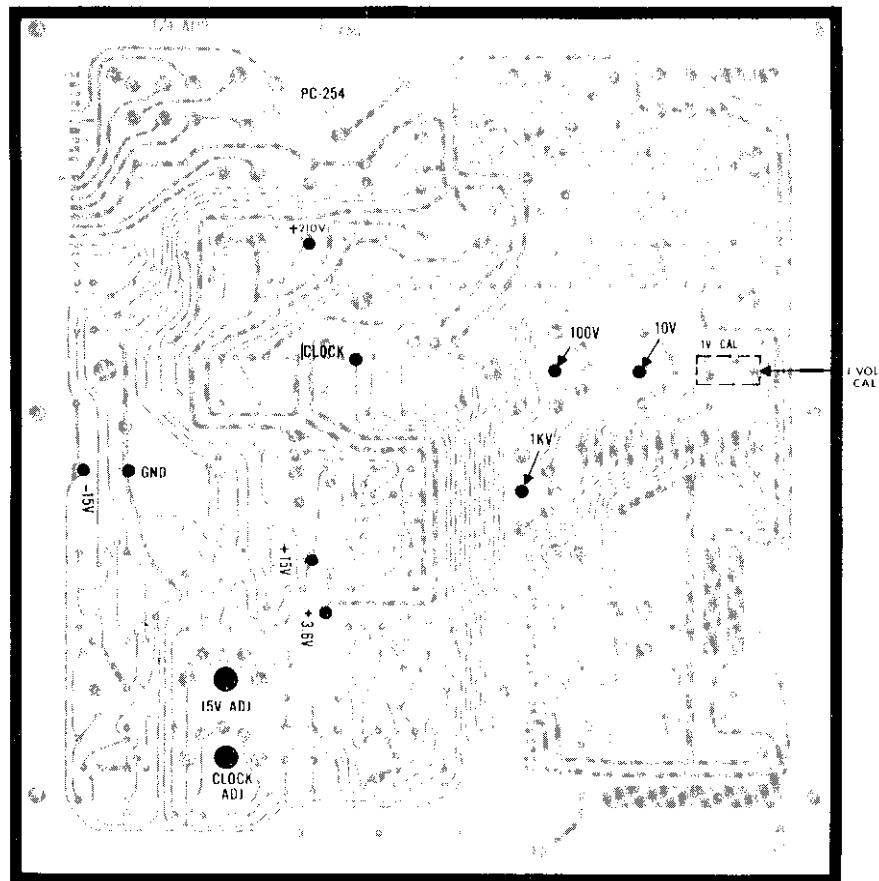

FIGURE 16. Calibration Controls.
2. Power Supply Checkout. All the power supply voltages can be measured at test points on printed circuit board PC-254 as shown in Figure 16.
1. Power Supply. The +15V supply should be adjusted for +15.00V dc  $\pm 0.050$ V using potentiometer R209 on PC-254 as shown in Figure 16. The -15V and +3.6V supplies cannot be adjusted since the +15V supply is used as a reference voltage.
2. Clock Frequency. Measure the clock frequency at the "CLOCK" test point on PC-254 as shown in Figure 16. The frequency should be adjusted for a nominal 10 kHz,  $\pm 20$  Hz using potentiometer R605 on PC-254 as shown in Figure 16.
3. Zero Adjust. Place a shorting wire across the Input Terminals (red and black). Connect voltmeter (A) to the analog OUTPUT (J103). Adjust the rear-panel ZERO Control (R505) for zero on the 1 mV range.
5. DC Balance. With voltmeter (A) connected to the OUTPUT adjust the OFFSET CURRENT ADJ Control (R733) for zero on the 1V range. The OUTPUT should be adjusted within  $\pm 1$  millivolt on the 1mV range and within  $\pm 0.1$  millivolt on the 1V range. Repeat the adjustments of R505 and R733 until the OUTPUT is within tolerance on both the 1 mV and 1V ranges simultaneously.